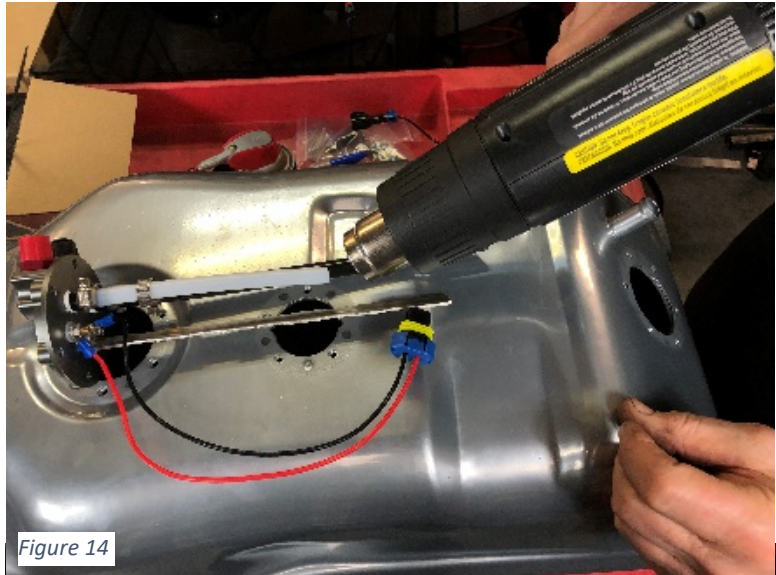

Figure 14
6. Measure depth of tank and determine where pump needs to be positioned vertically (Figure 7.) Once you have determined proper pump location so that filter sock will be within an 1/8" of the bottom of the tank when installed, cut the opaque hose and metal support rod to the desired length (Figure 8 & 9.) Using a heat gun, heat the end of the hose that will go onto the fuel pump (Figure 14). Push the heated hose onto the outlet nipple of the pump. **Note: Be sure to push straight and evenly. Do not force as pump nipple can break. If hose is not fully on pump nipple, reheat hose prior to pushing further.** (Figure 17) Secure with a hose clamp. (Item 10)
2. Measure depth of tank and determine where pump needs to be positioned vertically. Once you have determined proper pump location so that filter sock will be within an 1/8" of the bottom of the tank when installed, cut the opaque hose and metal support rod to the desired length. Using a heat gun, heat the end of the hose that will go onto the fuel pump. (Figure 14.) Push the heated hose onto the outlet nipple of the pump. (Figure 17) Secure with a hose clamp.